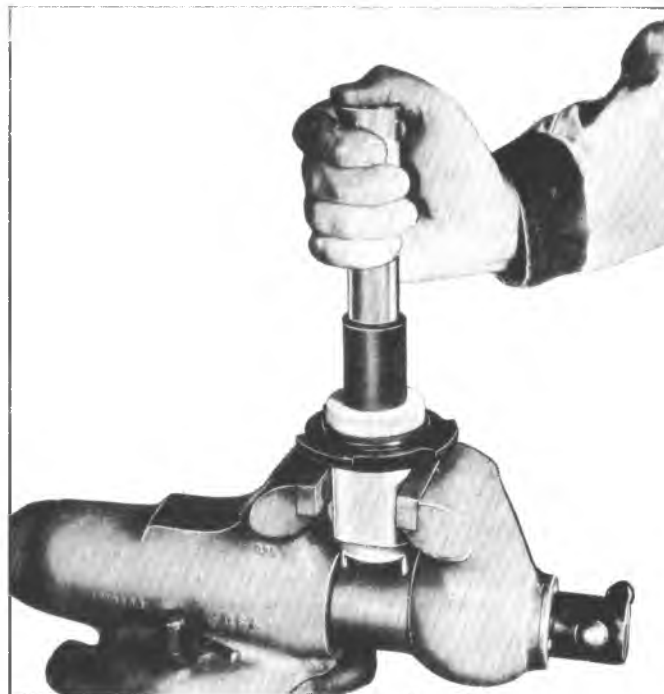
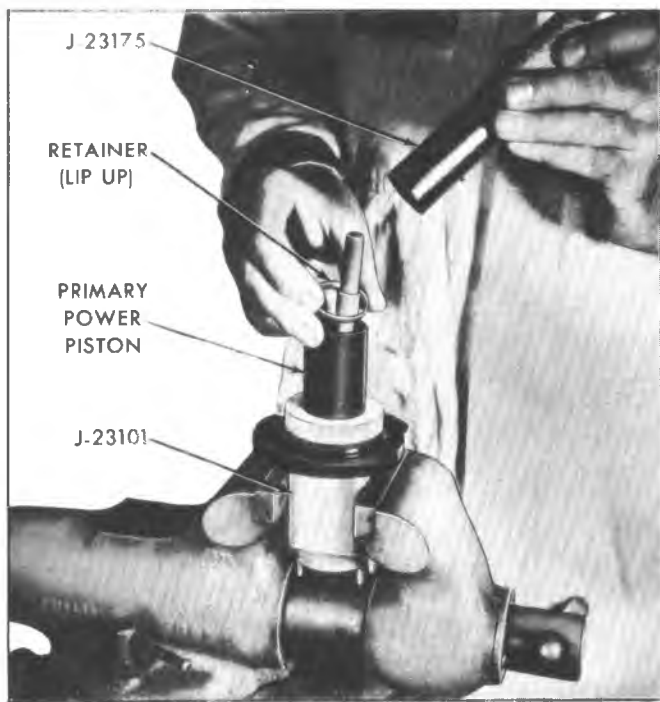

Fig. 12B--Seating Floating Control Valve Assembly with Installer J-23175
Fig. 11B--Installing Floating Control Valve Retainer with Installer J-23175
- Place the I.D. of the floating control valve retainer on the O.D. of floating control valve Retainer Installer J-23175. Place over the push rod so that the closed side of the retainer seats on the floating control valve (fig. 11B). With Installer J-23175, manually press the retainer and floating control valve assembly to seat in the primary power piston tube (fig. 12B).